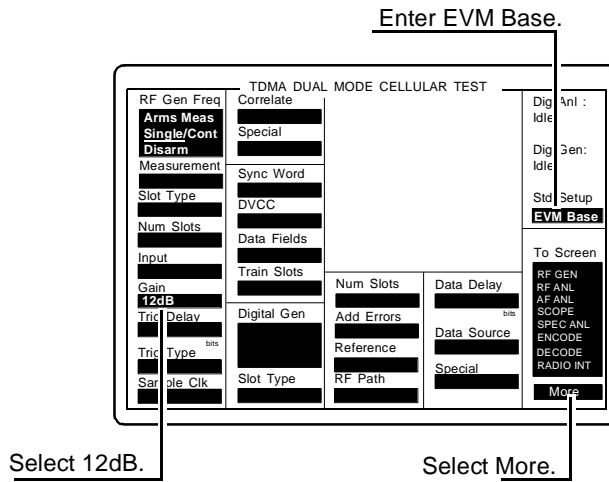

Figure 58
Step 3. Setup the TDMA screen (see figure 58).